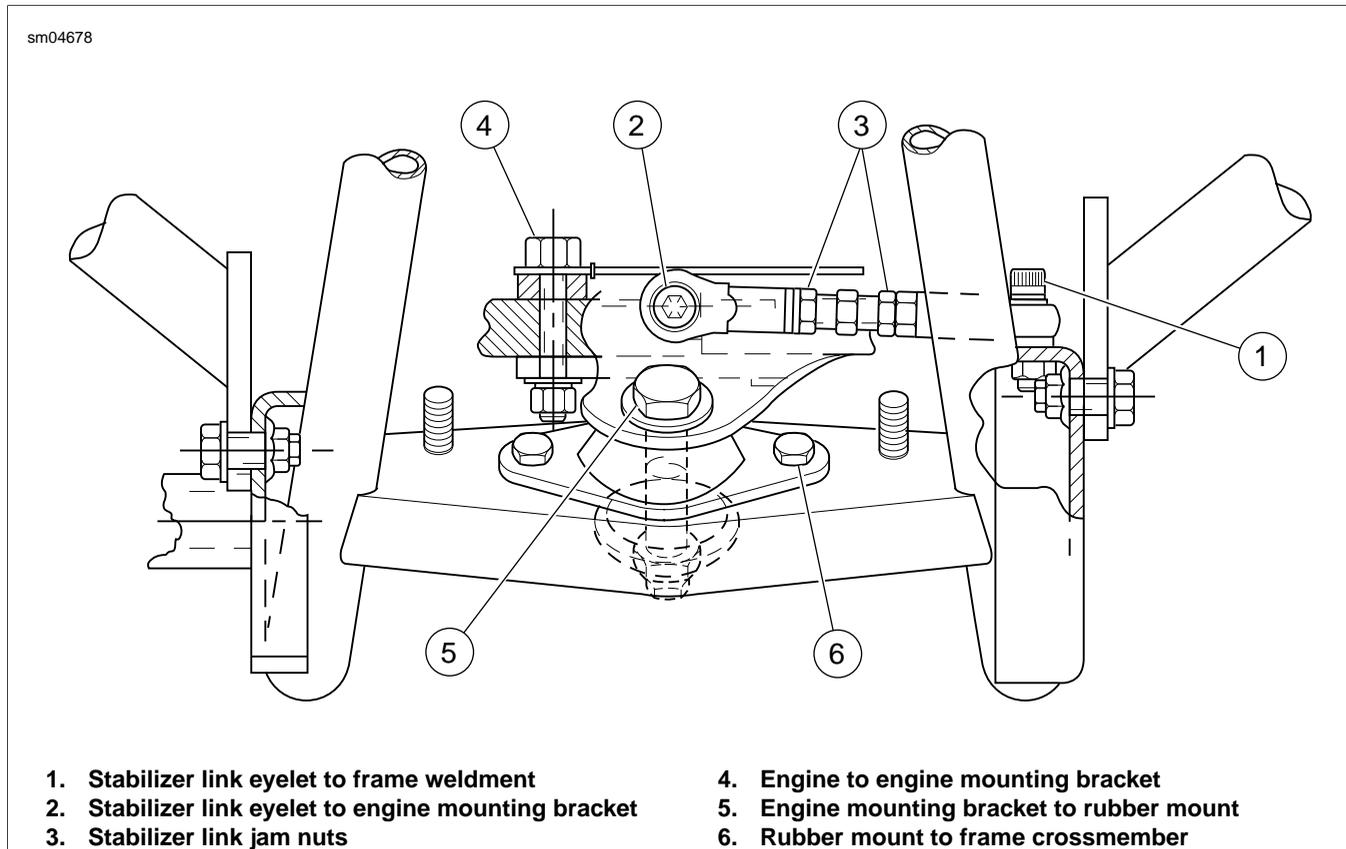

Figure 1-47. Front Engine Mount
1. See Figure 1-47. Tighten front stabilizer link eyelet to frame weldment bolt: 18-22 ft-lbs (24-30 Nm).